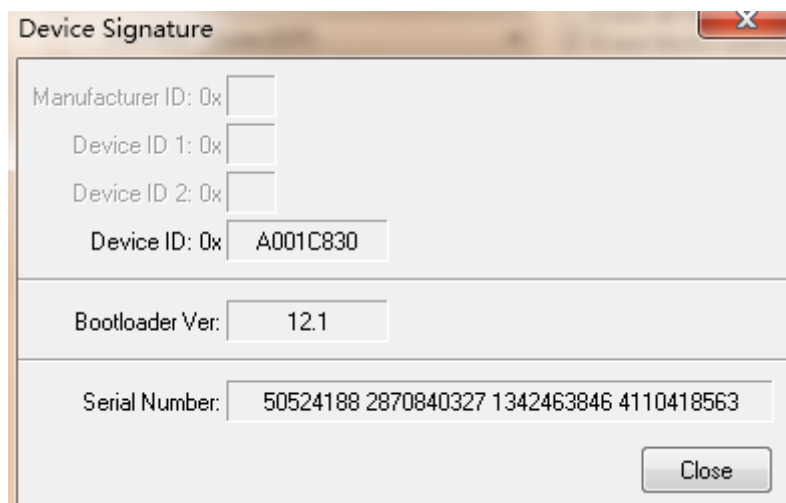

Figure 3-18
(4) Connect UART to COM (Note: ensure that the COM port used by ISP isn't occupied by other applications) and click ISP->Read Device Signature, then Flash Magic will recognize LPC1857 or LPC4357 ID. Refer to figure 3-18: